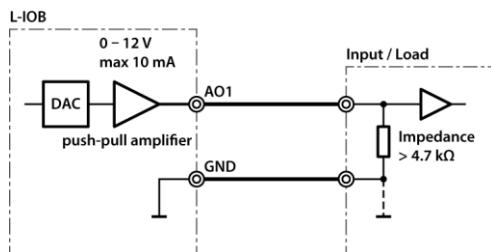

Figure 91: Analog outputs
Figure 91 shows the wiring of the analog outputs (AO). Observe that the analog outputs are labeled '0-10V OUT' but are in fact capable of delivering over 11V.